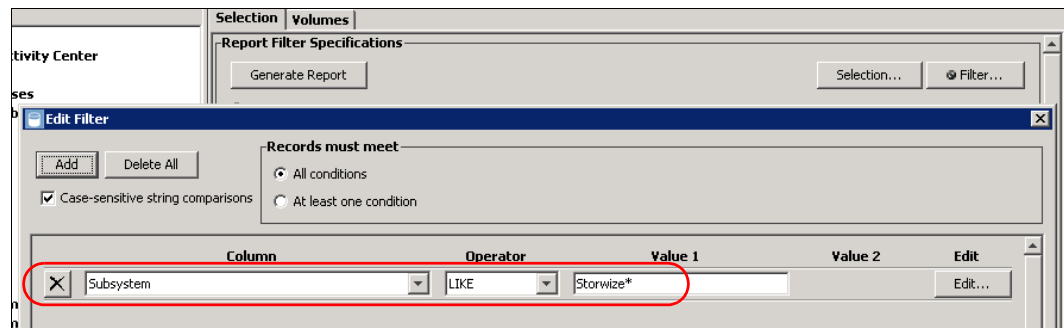

Figure 13-107 SAN Volume Controller performance report by Volume
3. Create a filter to produce a report for all the volumes that belong to the Storwize V7000 subsystems, as shown in Figure 13-107.